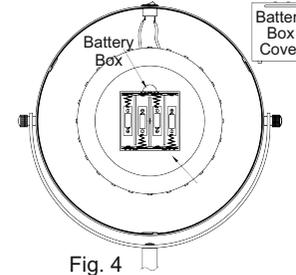

Fig. 4
3. Take the battery box cover off and insert 4 x AAA batteries as indicated (Fig.4). **AAA batteries not included.**